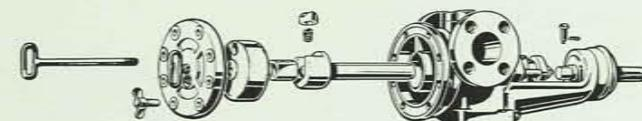

fig. 7
- quick disassembly version, for special uses or liquids, to facilitate disassembly of the pump for cleaning or checking of the inner parts (fig. 7)